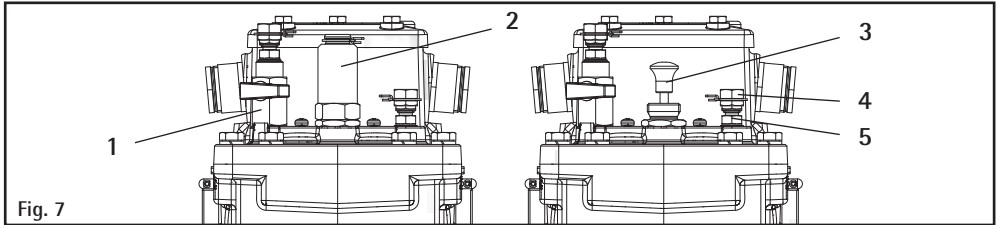

Fig. 7
Unscrew the cover sleeve (Fig. 7/2) using an open-ended wrench (A/F24) and detach. Turn the test button located below (Fig. 7/3) to the left up to the limit stop so that flap valve is released again. Check this through the inspection glass of the protective relay.
- Unscrew the cover sleeve (Fig. 7/2) using an open-jaw wrench (A/F24)
- Press the test button located below (Fig. 7/3) down completely and hold. Both floats should have sunk and transmitted signals to the control room via the reed switches. Obtain confirmation of function!
The procedure is as described in Section 6.2. In addition, turn the test button (Fig. 7/3) to the left up to the limit stop to release the flap valve. Check this through the inspection glass of the protective relay.
1. Bleed off any gases in the Buchholz relay via the gas withdrawal (Fig. 7/1).
2. Unscrew the end cap and remove from the pneumatic test connector (Fig. 7/4).
3. Screw the pump supplied to the pneumatic test connector using M10x1 adapter (Fig. 7/4).
5. After checking the functionality, return the upper float to its starting position by bleeding off the introduced air via the gas withdrawal (Fig. 7/1). Check this through the inspection windows.
This requires a gas cylinder of nitrogen (N2) or compressed air to introduce nitrogen into the Buchholz relay "in bursts" at minimum 6.5 bar (briefly opening and closing the gas cylinder) via the pneumatic test connector (Fig. 7/4).
1. Bleed off any gases in the Buchholz relay via the gas withdrawl (Fig. 7/1).
3. Screw the nitrogen or compressed air cylinder with suitable armature to the pneumatic test connector using M10x1 adapter (Fig. 7/4).
5. After checking the functionality, return the float to its starting position by bleeding off the introduced air via the gas withdrawl (Fig. 7/1). Check this through the inspection windows.